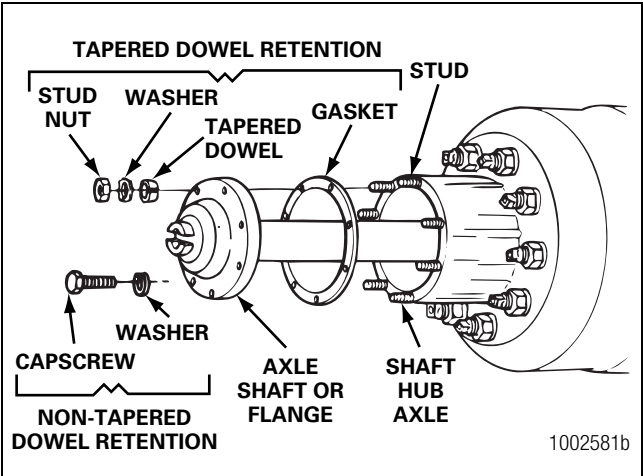

Figure 5.82
12. Install the gaskets and axle shafts into the axle housing and carrier. The gasket and flange of the axle shafts must fit flat against the wheel hub. Figure 5.82.
3. Install the gasket and the axle shaft into the housing. The gasket and the flange of the axle shaft must fit flat against the wheel hub. Figure 5.82.